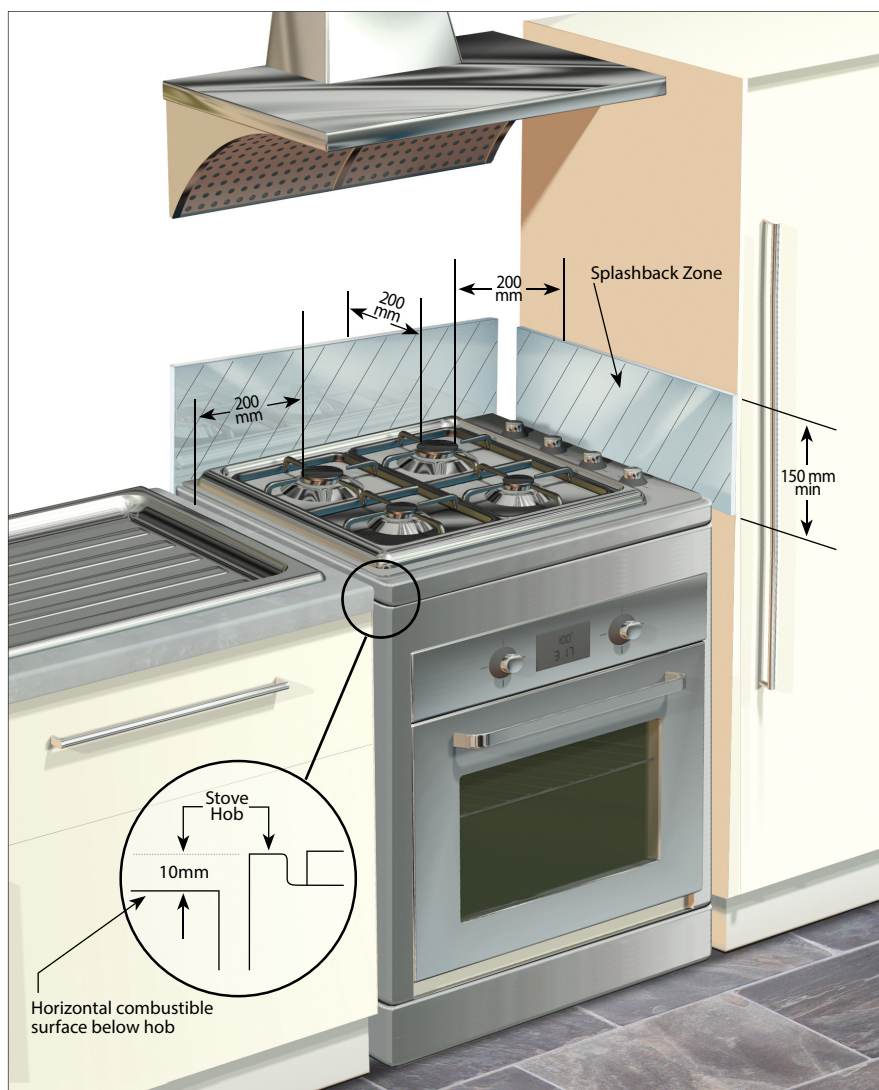

FIGURE 1: SPLASHBACK CLEARANCES
- Adjacent horizontal combustible surfaces must be a minimum 10mm below the hob or above the trivet. The trivet is the metal grids that support cookware. Refer to Figure 1 above.